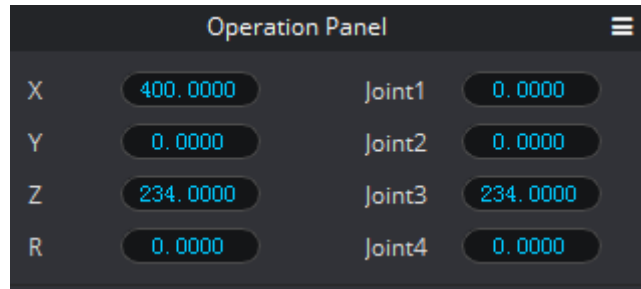

Figure 7.6 Homing point
After the homing procedure is completed, the coordinate of the homing point is shown in Figure 7.6.
- If the coordinates you get is quite different from Figure 7.6, it indicates that the homing procedure fails, please click **Initialization.exe** in the *Installation directory/DobotStudio/tools/Initialization* directory to reset homing position. For details, please contact Dobot support engineer.